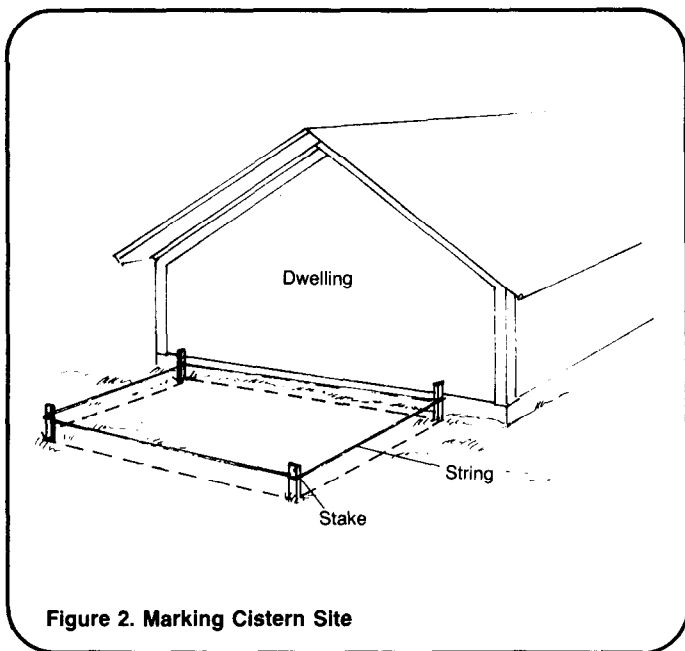

Figure 2. Marking Cistern Site
1. Find the best location near the house to build the cistern. It should be located on high ground for good drainage and should not be located closer than 15m to the nearest waste disposal site. Once the site is located, mark it out using a measuring tape, wooden stakes and cord, as shown in Figure 2.